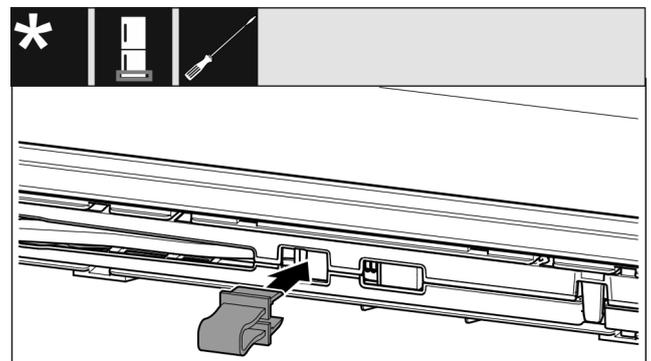

Fig. 18
- ▶ Latch safeguard into opening. (see Fig. 18)